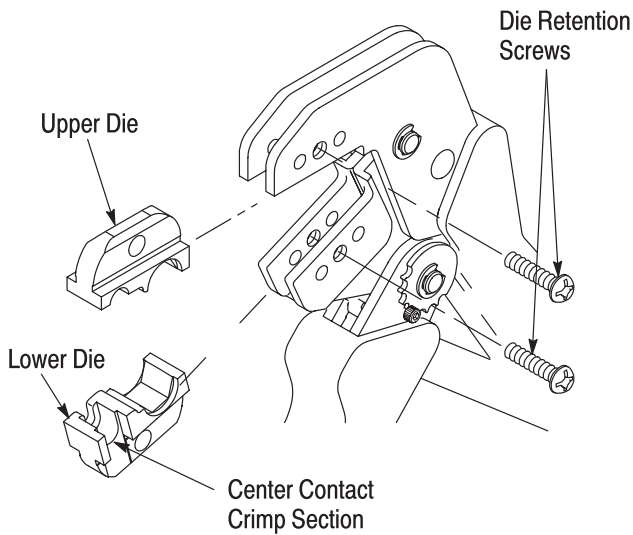

Figure 2
**3.1. Shouldered Dies (Figure 2)**
Die assemblies with center contact crimp sections should be installed with the center contact crimp section toward the front of the tool jaws as shown in Figure 2. If indicated otherwise in other instructions, follow the specific die requirements demonstrated in that document.